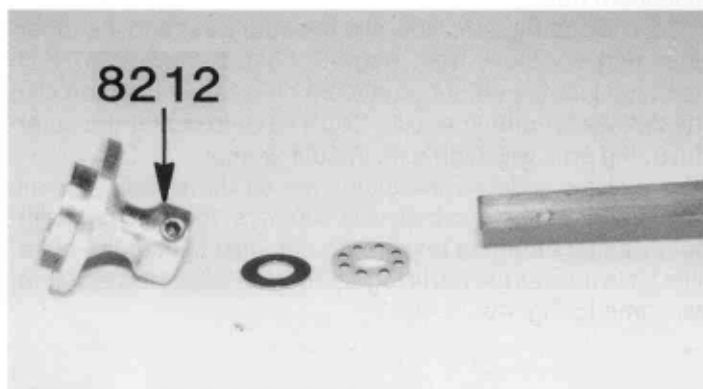
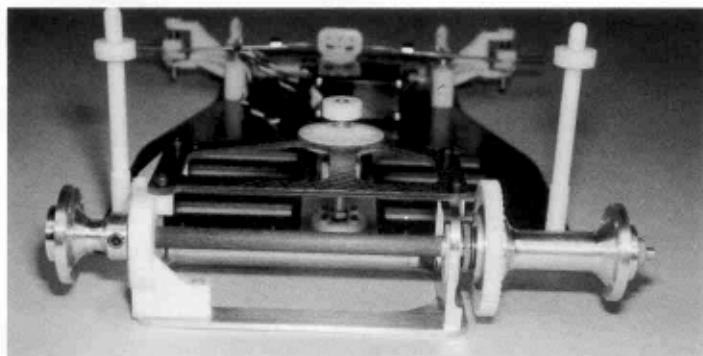
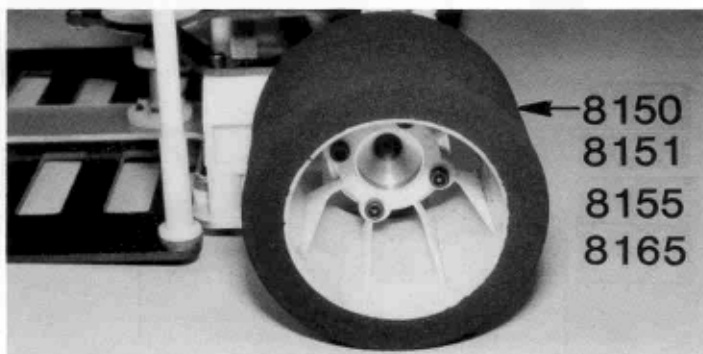

Fig. 47
Fig. 48
Fig. 49
Now slide on the aluminum dif thrust collar, small hole first, then the two belleville washers, then the nut, with both washers bulging toward the nut. Just tighten the nut a little bit to hold all the parts together. We'll adjust it later when we come to Fig. 49.
□ **Figs. 47 & 48**— Now slip a blue thrust bearing onto the axle, then another smooth washer. Slide the #8212 left hand wheel hub onto the axle and lightly tighten the set screw. Now remove the wheel hub and file a small flat spot on the axle shaft where the set screw mark is. This will make it easier to remove the wheel hub later. Reinstall the wheel hub. Adjust the side end play so the axle can turn freely. You should have about a paper's thickness end play. Now tighten the set screw and check again the end play. Your installed axle should look as in Fig. 48.
□ **Fig. 49**— Install the #8165 rear wheels/tires onto the left hand and right hand wheel hubs with the eight long allen screws. Now turn the car so the rear of the car is facing you, as in Fig. 48.